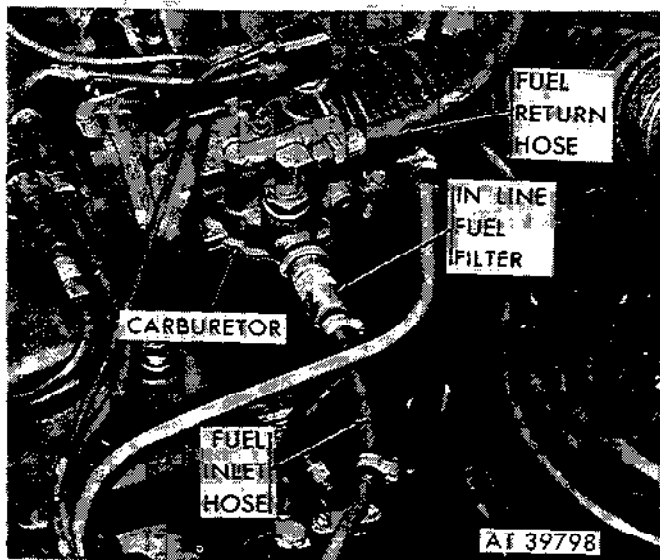
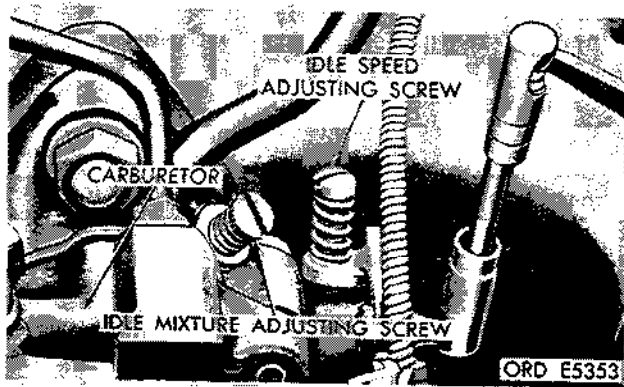

Figure 2-82. Zenith carburetor installed on M151A2, M825, and M718A1 vehicles.
Figure 2-91. Carburetor adjustment (Holley or Zenith).
(1) *General.* Adjustment of the carburetor is accomplished by means of the idle mixture adjusting screw (fig. 2-91) and the idle speed adjusting screw. Make all carburetor adjustments with engine running at normal operating temperatures.
(3) *Idle speed.* The idle speed adjusting screw on the throttle lever (fig. 2-91) should be set to idle the engine speed at 550-600 rpm.
(2) Disconnect fuel return hose at carburetor (M151A2, M825, and M718A1 only) (fig. 2-82).
(4) Loosen clamp and disconnect fuel inlet hose from in-line fuel filter. Disconnect in-line fuel filter at carburetor (M151A2, M825 and M718A1 only) (fig. 2-82).
a. *Adjustments.* Adjustment of the Zenith carburetor is accomplished by the same means as that of the Holley carburetor, in relationship to the idle mixture adjusting screw and the idle speed adjusting screw (fig. 2-91).
b. *Removal of Zenith Carburetor.* The Zenith carburetor can be removed by using the same procedure as given in operations (1) through (8) paragraph 2-44 for removal of Holley carburetor, except for deletion of float chamber vent hose.
c. *Installation of Zenith Carburetor.* Install the Zenith carburetor (fig. 2-82 or 2-98) using the same procedure as given for the Holley carburetor (para 2-44).